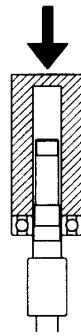

Fig. 5
- (1) Press bearing ⑮ onto shaft ⑰ until seated against the shoulder. (Fig.5)
- (2) Install bearing washer ⑭ and bearing nut ⑬.
- (3) Press bearing ⑮ into bearing box ⑤.
- (4) Install cap ⑥.
- (5) Install bearing box ⑤ onto fan case (A) ④.
- (6) Install fan key ⑳.
- (7) Assemble fan ⑲, deflector ㉔ and fan case (B) ㉑ through the last fan in this order.